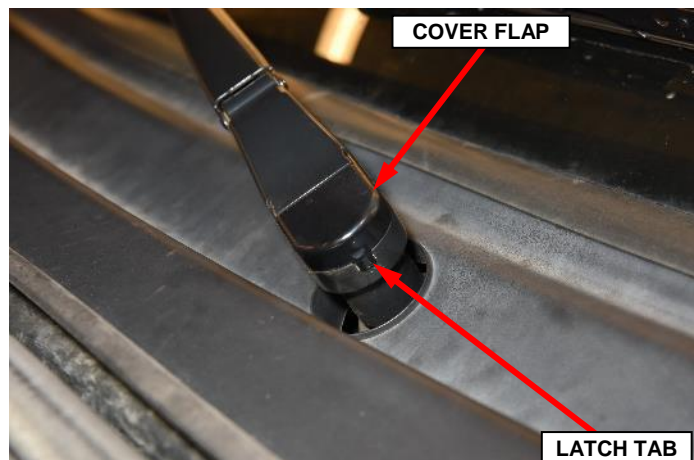

Figure 37 – Front Wiper Arm Cover Flap
13. Press firmly and evenly on the cover flap on the pivot end of the wiper arm until the integral latch tab on the flap snaps closed over the wiper arm pivot end, concealing the mounting nut (Figure 37).